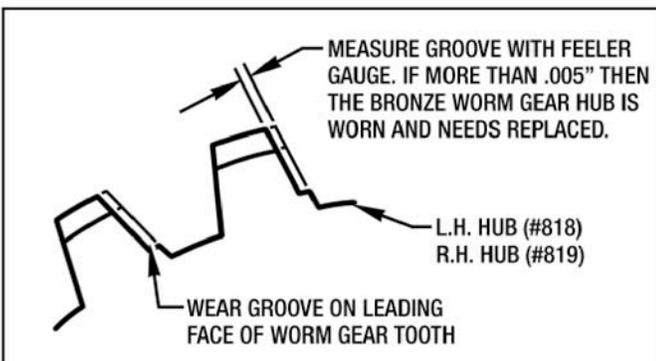

Figure 8.1 - Determining Worm Gear Wear
1. Pay particular attention to the Wear Sleeves (#875) located on the Hub (#818) and (#819) and the (3) Oil Seals (#824) and (#825). Check for nicks or scratches which would cause leakage. Replace any damaged parts.
2. Inspect the bronze gear closely for any perceptible wear, grooving, scoring and porosity. Use a feeler gauge to determine the amount of actual wear there is in the bronze gear. If the amount of wear is .005" or more, the bronze worm gear needs replaced. (See Figure 8.1)